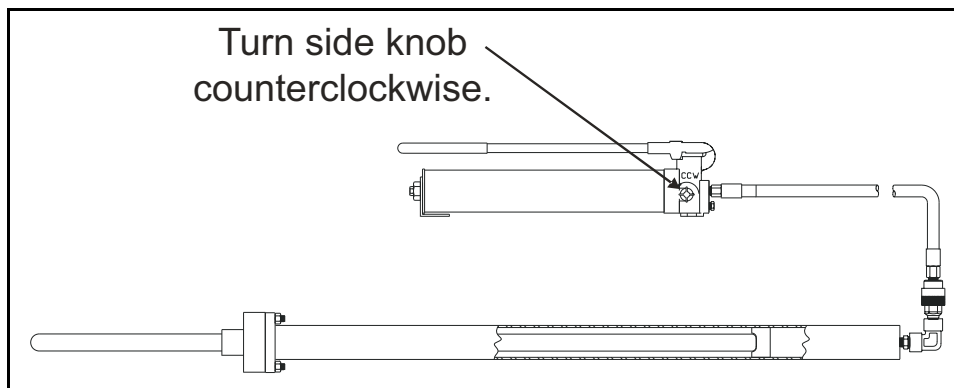

Figure 34: Releasing the Oil Pressure
- Turn the side knob of the hydraulic pump counterclockwise to release the oil pressure (see *Figure 34* below).